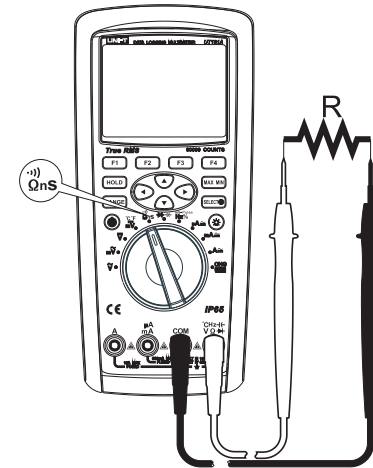

Figure 8
- 2) Set the rotary switch to the measurement Ω nS $\rightarrow$), and current Ω is the default resistance measurement as shown in Figure 8. Connect the test leads to both ends of the measured resistance.
- 2) Set the rotary switch to the measurement Ω ns. press the key SELECT to select conductance measurement 60nS. Connect the test leads to both ends of the measured resistance as shown in Figure 8.
- 2) Set the rotary switch to the measurement Ω nS $\rightarrow$, press the key SELECT to select the continuity test $\rightarrow$. Connect the test leads to both ends of the measured resistance as shown in Figure 8. Press the function key MENU (Menu) to enter the menu items. If pressing the key SHORT (Menu), then the buzzer selects